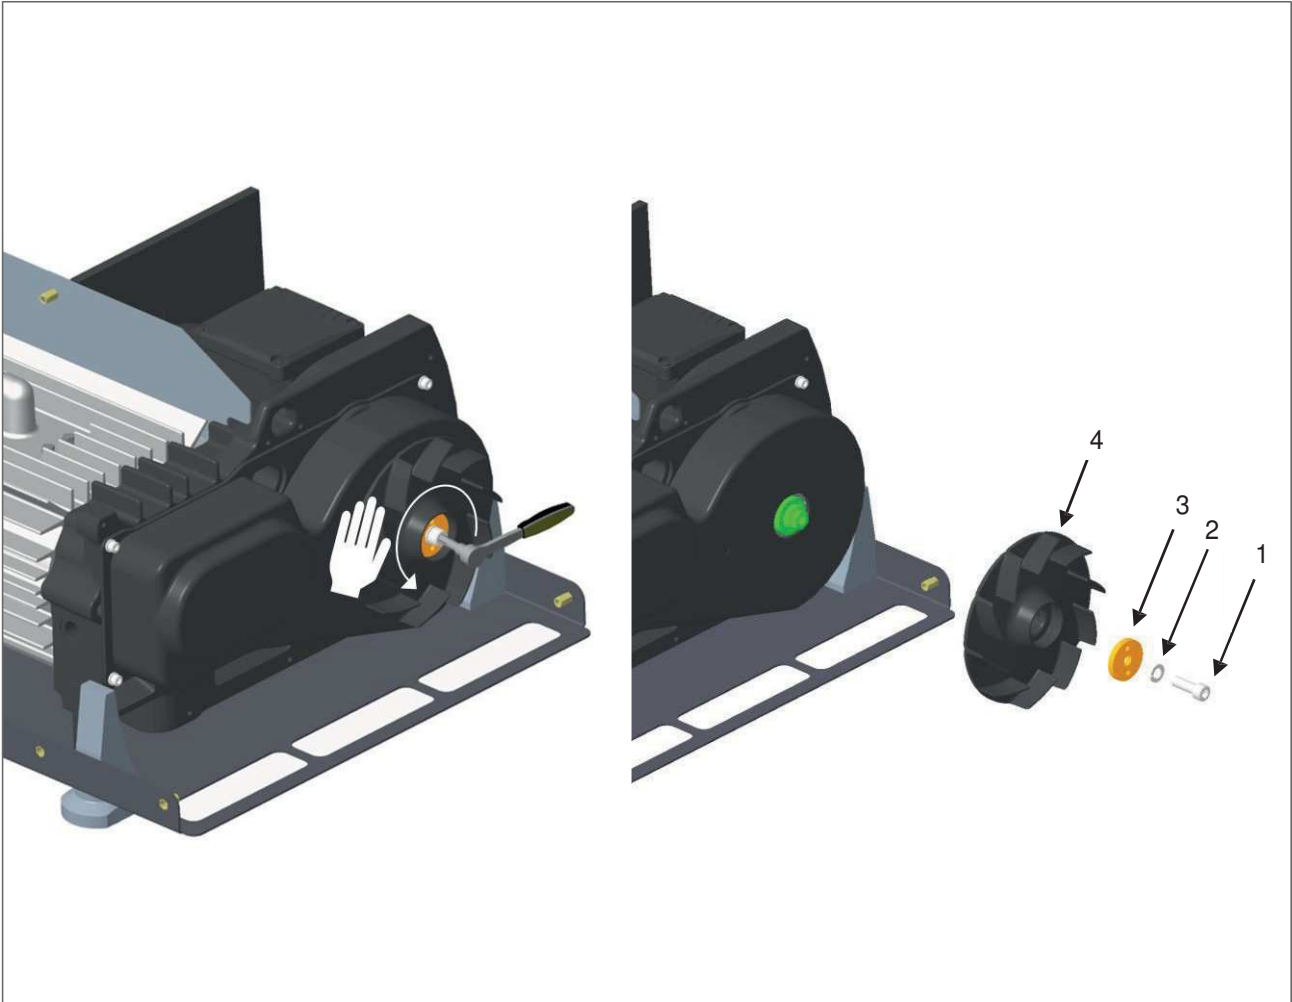

Figure 3 – Fan removal
1. Using an 8 mm Allen key, remove the screws, washer and rotor washer (Figure 3, Item 1, 2, 3) which secure the fan on belt chamber.
2. Separate fan (Figure 3, Item 4) from pump.